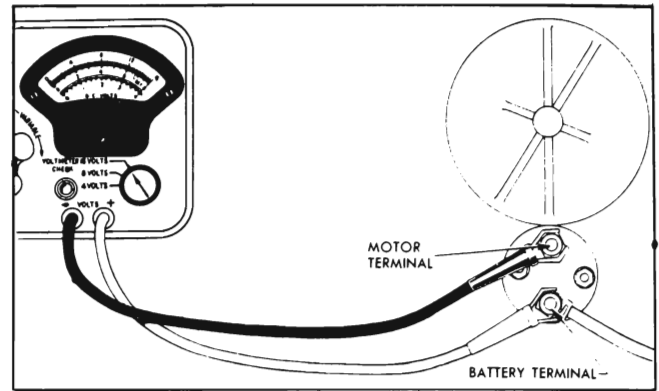

Figure 10-27—Solenoid Switch Contact Test Connections
6. With voltmeter switch turned to any scale above 12 volts, connect voltmeter negative (-) lead to the motor terminal of solenoid switch, and connect positive (+) lead to battery terminal of switch. See Figure 10-27.